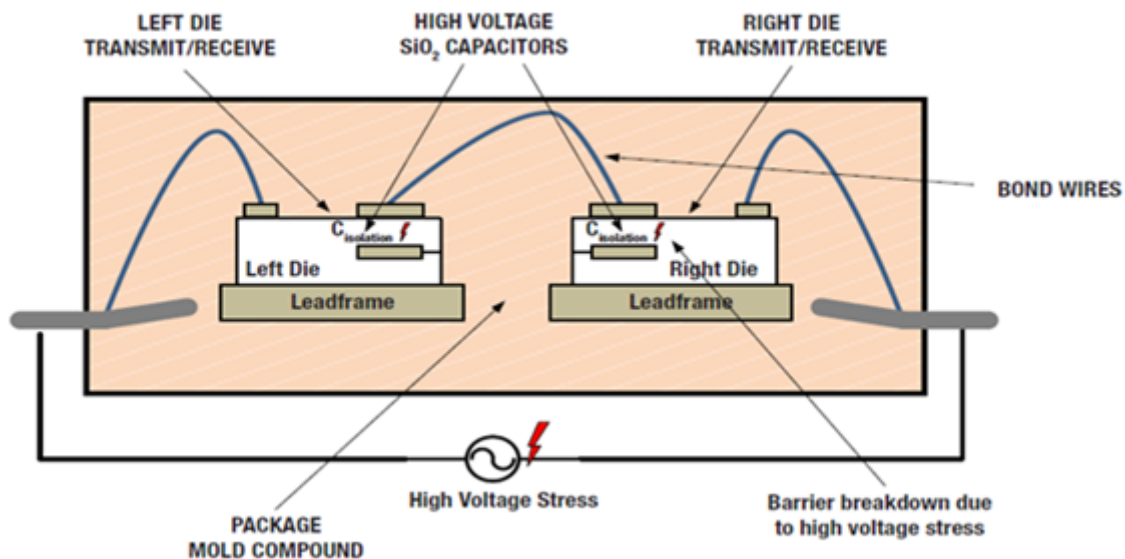

Figure 2. Cross section of digital isolator construction
Silicon-based isolation technology is based on CMOS technology, and consists of two separate integrated circuit (IC) chips – an input circuit and an output circuit – connected through bond-wires to enable data transfer, as shown in Figure 2.